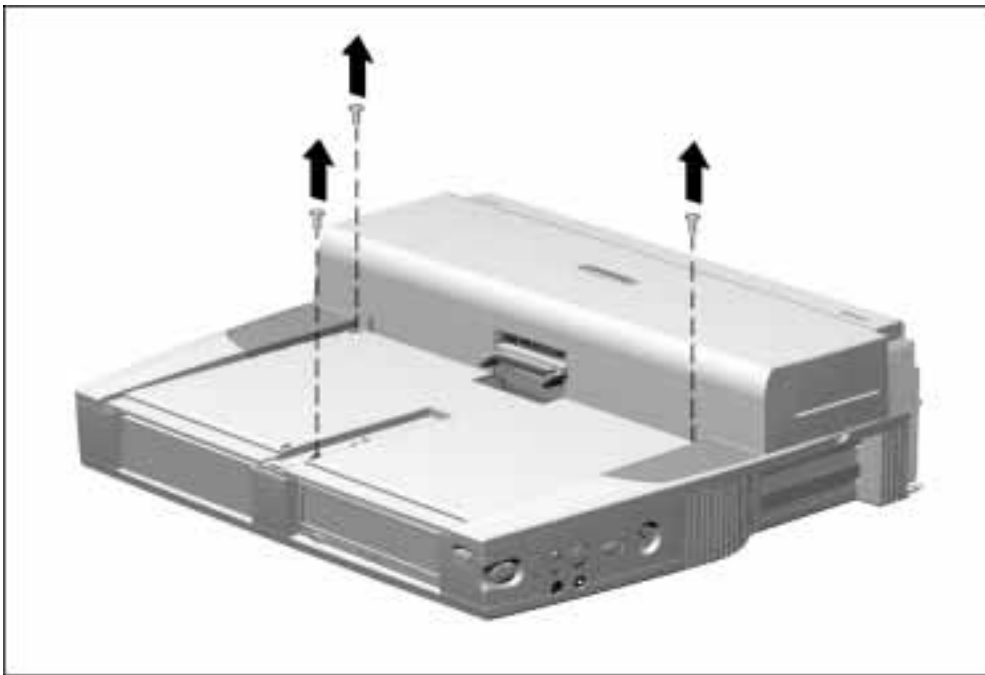

Figure 5-11. Removing the Upper Case Assembly Screws
5. Remove the three screws securing the upper case assembly to the base assembly (Figure 5-11).